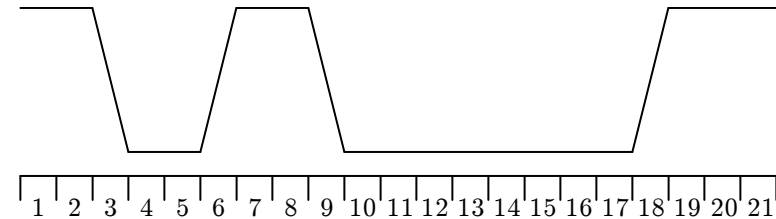

Figure 1: Sample Input to External Interrupt
4. Microcontrollers often provide several different ways of configuring interrupt triggering, such as *level detection* and *edge detection*. Suppose the signal shown in Figure 1 was connected to a microcontroller pin that was configured as an input and had the ability to trigger an interrupt based on certain signal conditions. List the cycles (or range of cycles) for which an external interrupt would be triggered if that pin's sense control was configured for: (a) rising edge detection, (b) falling edge detection, (c) low level detection, and (d) high level detection. Note: There should be no overlap in your answers, i.e., only one type of interrupt condition can be detected during a given cycle.